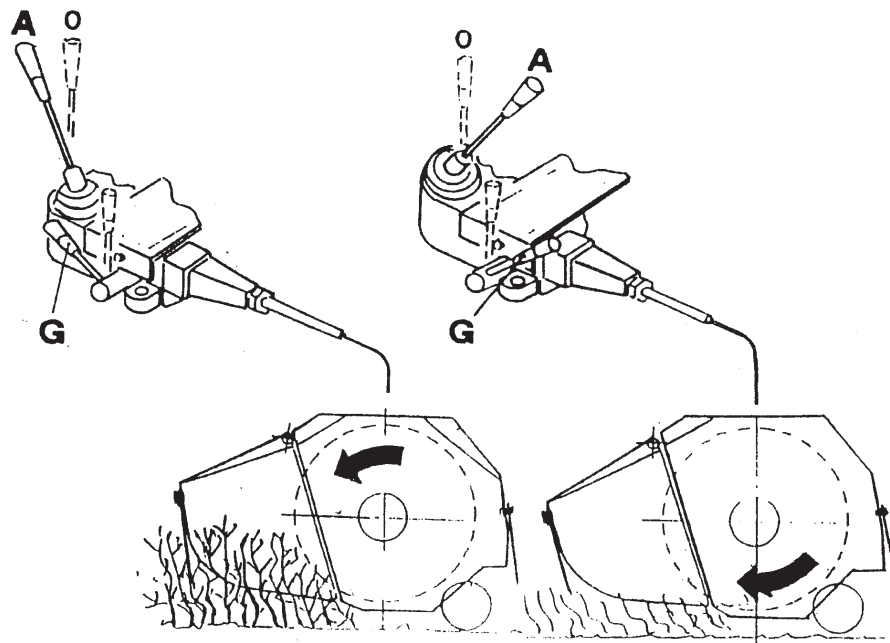

Fig. 27
Lever A - It controls the rotational direction of the rotor, upon shifting the lever G, which must absolutely be inserted to allow the control of lever A (see FIG. 27).
- Verify that the control of the rotor is in neutral position - 0 - (see FIG. 27).
Disengage the rotor drive by operating the levers G and A (FIG. 27) and shifting them to position 0 and wait till the rotor has completely stopped (about 30 seconds).